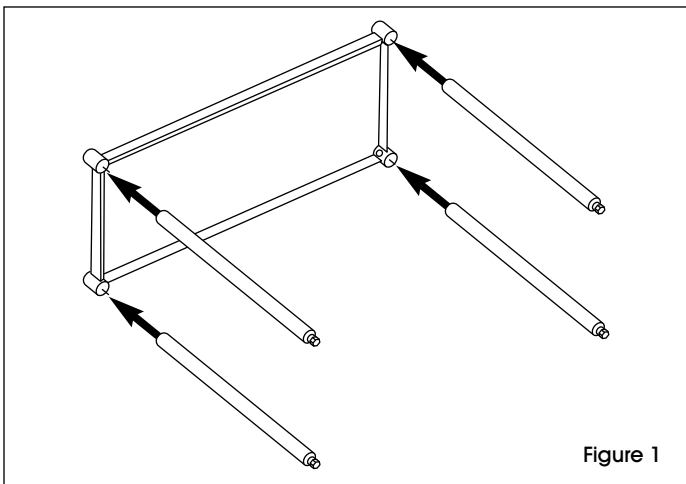

Figure 1
1. With undershelf on its side, push legs through collars to desired height. To ensure exact height, mark desired height on each leg with magic marker or grease pencil. (See Figure 1)